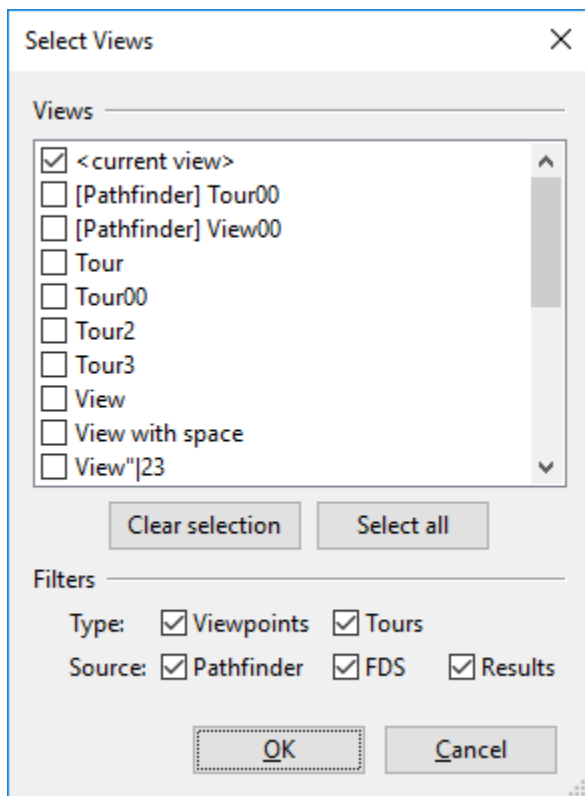

Figure 4:10: Select Views dialog
- **Views:** The views from which to take screenshots. Clicking the link will open the **Select Views** dialog as shown in Figure 4:10.